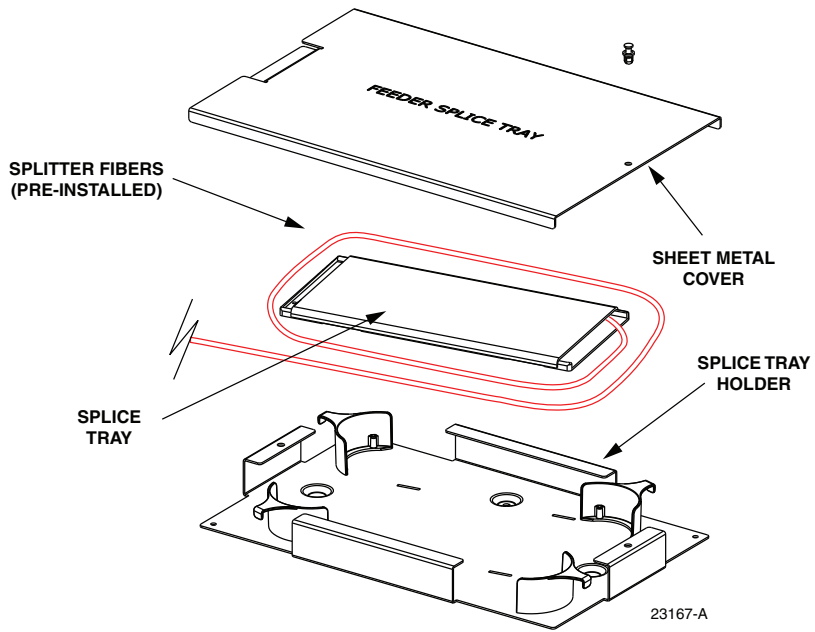

Figure 21. Feeder Slice Tray Assembly
2. Lift the sheet metal cover away from the splice tray holder as shown in Figure 21.
2. Lift the sheet metal cover (See Figure 21) away from the splice tray holder.